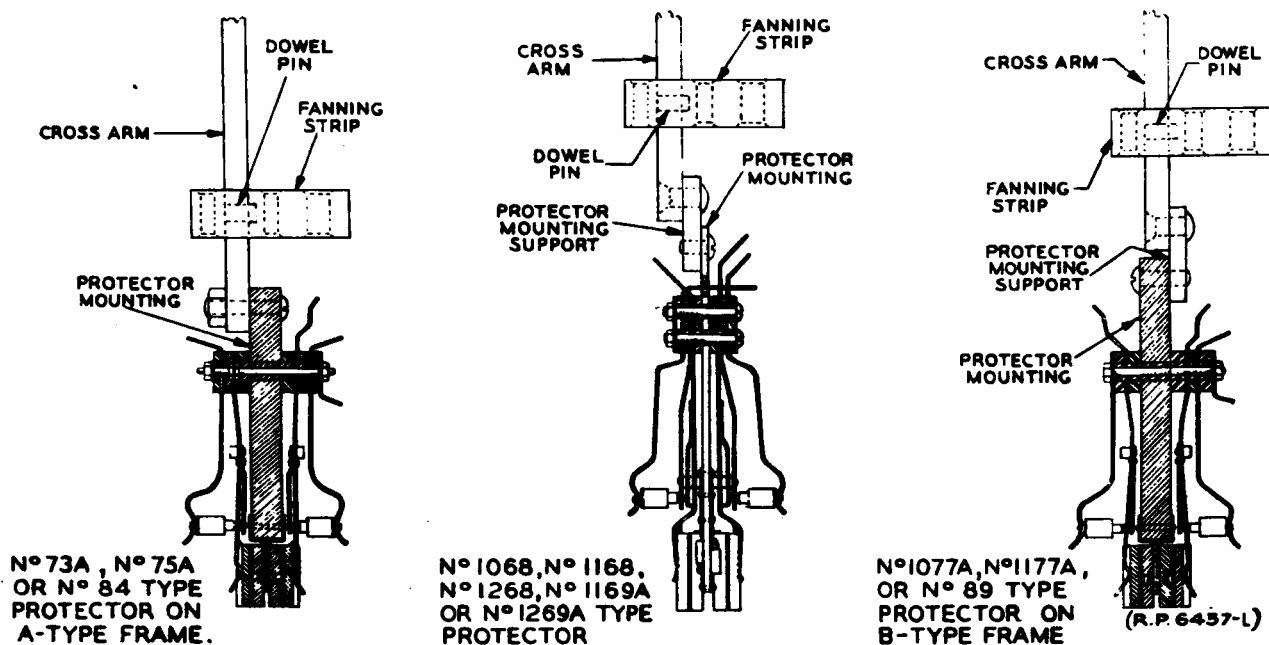

FIG. 16 METHOD OF MOUNTING PROTECTORS ON FRAMES WHERE MOUNTING BARS ARE RIVETED (PAR. 4.75)
- 4.75 Mount protectors on old type distributing frames where the mounting bars are riveted as shown in Figure 16.